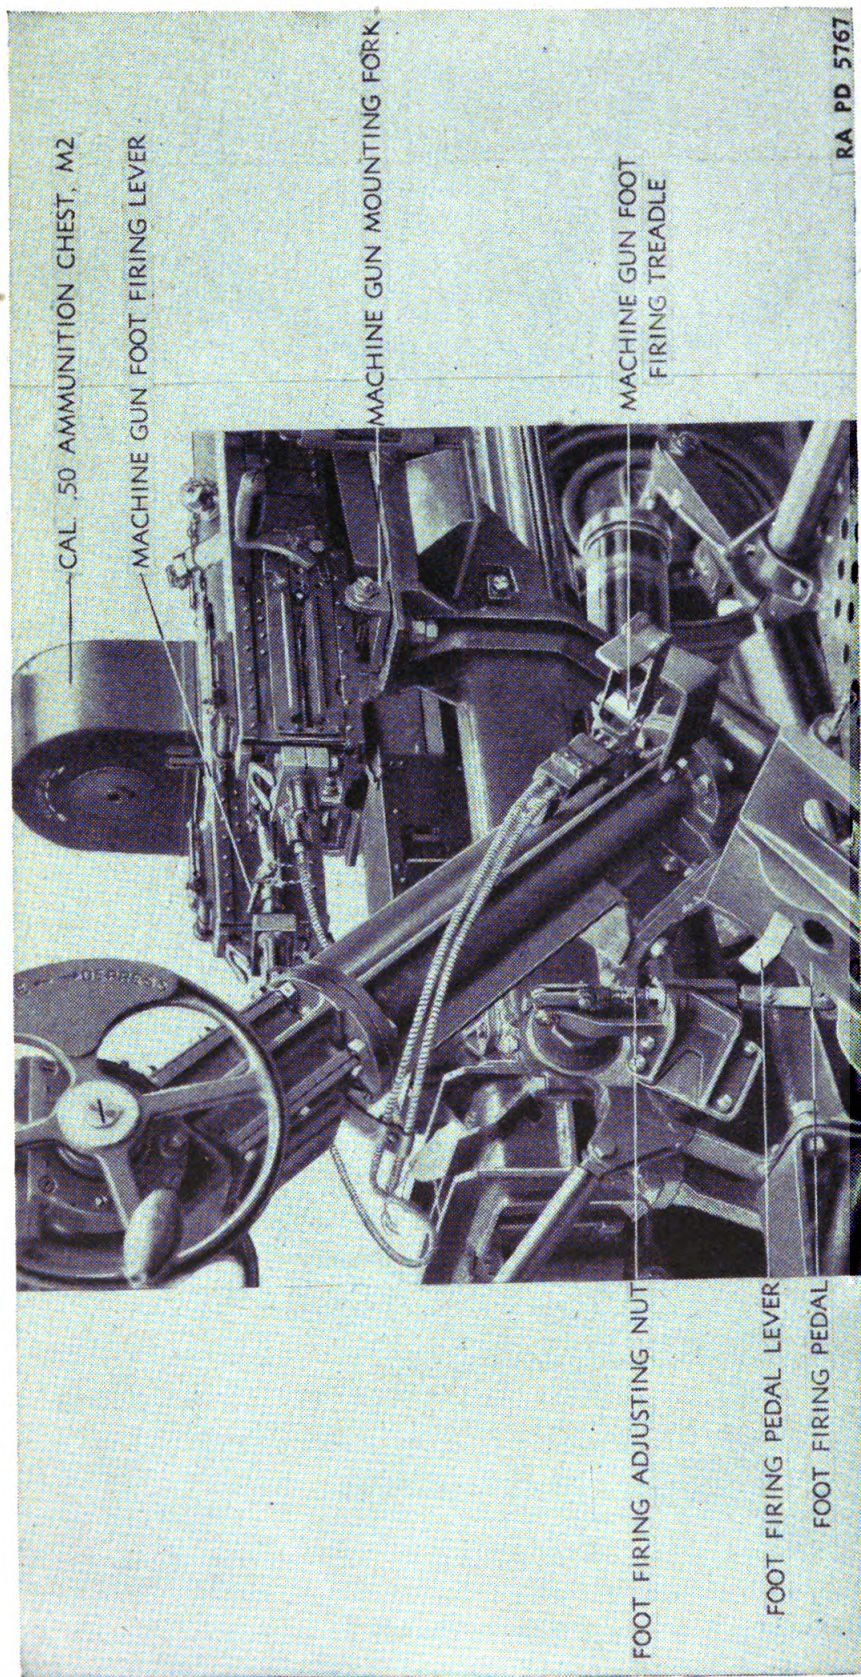

FIGURE 32.—Foot-firing mechanism for 37-mm gun and two caliber .50 guns.
**28. Firing mechanism.**—*a. M3 carriage* (fig. 32).—The elevating operator is provided with two foot pedals, the left one acting as a control for firing the gun. This foot pedal is provided with a latch lever which is located to the left of the pedal. The operator fires the gun by disengaging the latch, doing so by pressing the lever to the left and then pushing the pedal down. The gun trigger remains pulled as long as the foot pedal is depressed. When pressure on the pedal is released the pedal rises and the latch automatically locks the pedal. A mechanical system of levers and links carries the motion of the foot pedal through the right trunnion bearing to the trigger connector bracket lever which passes through the hole of the trigger.
*b. M3E1 carriage* (fig. 32).—The firing mechanism for the 37-mm gun is the same as that on the M3 carriage. The firing mechanism for the two caliber .50 machine guns consists of a foot treadle assembly bolted to the lower portion of the elevating mechanism gear case. This foot treadle is operated by the right foot of the elevating operator. Two cables run from this treadle, one to each of the two caliber .50
machine guns mounted on the sides of the cradle. Either one of the cables can be disconnected from the machine gun by means of the machine gun foot firing lever found at the point where the cables are connected to the trigger mechanism (fig. 32).
*c. Continuous loading.*—(1) The automatic mechanisms feed in the ammunition clip without further help. However, other clips must be loaded and fed in as described below.
(2) A second clip is pushed lightly into contact with the first clip just before the last round of the first clip enters the feed box opening. Contact should be maintained until the feed slide pawl grasps the second clip.
(3) During certain portions of the recoil and counterrecoil cycles there are times when the ammunition clip is free to move through the feed box if pushed by the loader. If this occurs, more than one round will be fed into the receiver and the gun will jam. To prevent this, the loader should avoid exerting too much pressure on the clip being fired when following it up with a second clip.
(4) If the new clip is not caught by the feed mechanism and carried into the gun, then the clip will have to be pushed in hard enough to strip the first cartridge as described in *b* above.
(5) The empty clips should be caught as they come out of the right side of the feed mechanism.
**35. To fire.**—*a. M3 carriage* (fig. 32).—(1) The 37-mm gun on this carriage is fired by the elevation operator as follows:
(2) Push the foot-firing pedal lever to the left in order to unlatch the foot-firing mechanism.
(3) Depress the foot pedal to fire the gun. The trigger will remain pulled as long as the pedal is depressed. When the pedal is released, the trigger returns to normal position and the pedal lever locks the pedal in place.
(4) If the pedal is depressed while loading the gun, the cartridge will be fired as soon as it is charged into the chamber. If the cartridge is fed in first, it will remain unfired until the pedal is depressed.
*b. M3E1 carriage* (fig. 32).—(1) The 37-mm gun is fired the same as described in *a* above.
(2) The two cal. .50 machine guns are fired by depressing the machine gun foot-firing treadle. There is no latching device on this treadle.